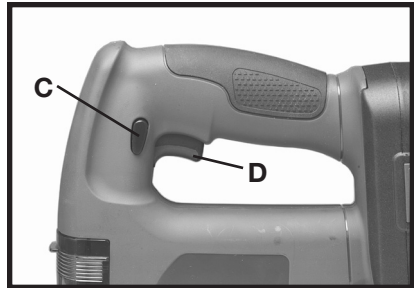
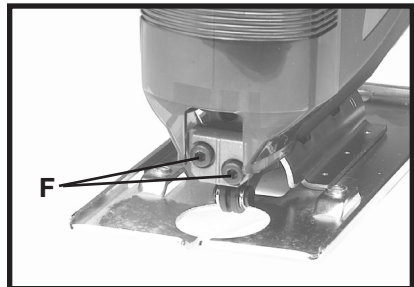
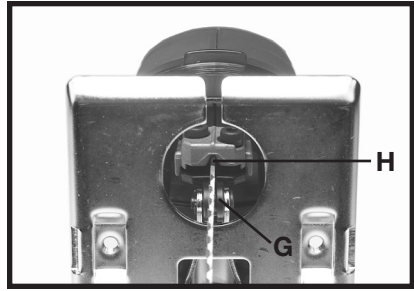

Fig. 6
Fig. 7
Fig. 8
2. Depress button (C) Fig. 6, and gently squeeze the switch trigger (D) until the blade shaft moves slowly and stop the motor when the blade shaft is at or near the bottom of its stroke as shown in Fig. 7.
4. Loosen the two screws (F) Fig. 7 on the blade shaft.
5. With the teeth of the blade facing away from the saw, insert the blade through the blade guide (G) Fig. 8, into the blade holder (H) as far as it will go and tighten the two screws (F) Fig. 7.